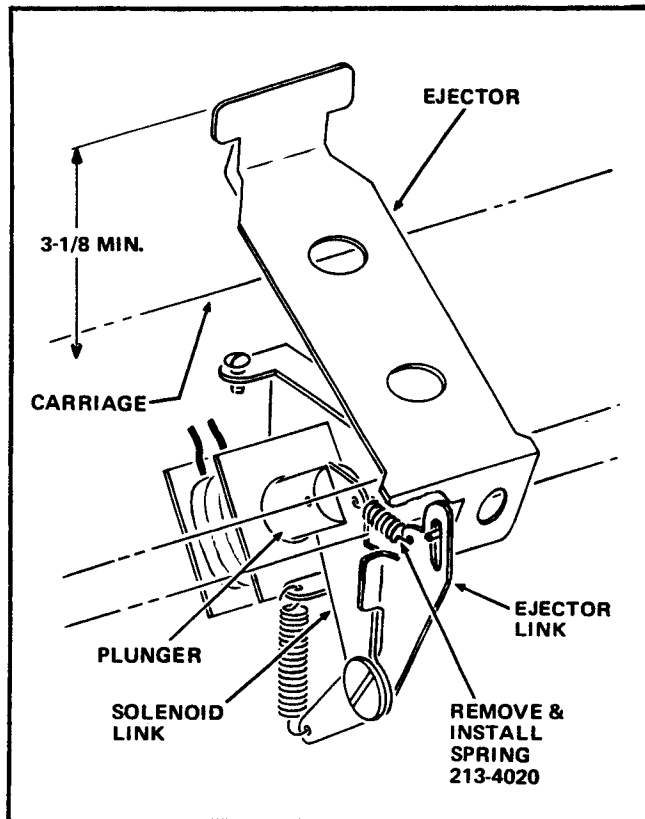

FIGURE 4
7. Remove the Spring extending from the Solenoid Link to the Ejector Link on each Ejector Assembly on the Carriage Assembly. See Figure 4.
1. Replace the Springs removed in Step A7 with the twelve Springs, Part Number 213-4020, included in the Kit, by attaching one end of the Spring to the top of the Solenoid Link and the other end to the Ejector Link on each Ejector Assembly. See Figure 4.
Assembly by pushing in the plunger on the Solenoid Assembly. This will raise the Ejector. If the top edge of the Ejector will not raise more than 3 1/8 inches above the surface of the Carriage as shown in Figure 4, replace the Solenoid and Bracket Assembly, Part Number 236-6057.